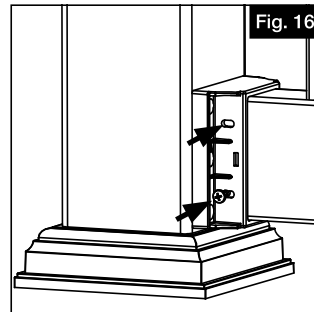

Fig. 16
- b. Install #10 x 1" screws in all pre-drilled holes (Fig. 16).